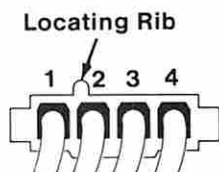

Figure 5. Diskette Drive Power Connector
- Check the power connector at drive A for the voltages listed in Figure 5.